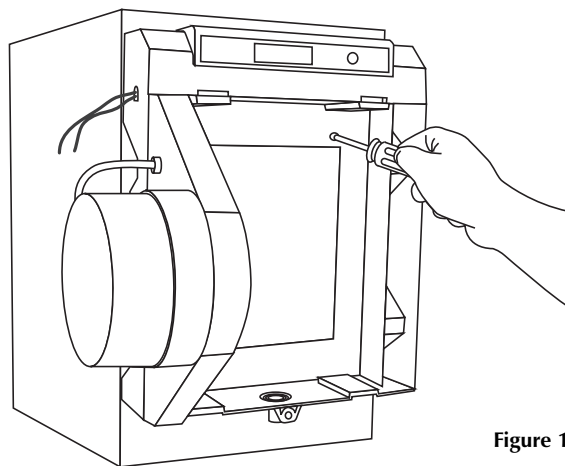

Figure 11
5. Mount the humidifier cabinet on the duct with 4 of the screws from the installation package. Level the humidifier before tightening the screws. (fig. 11)